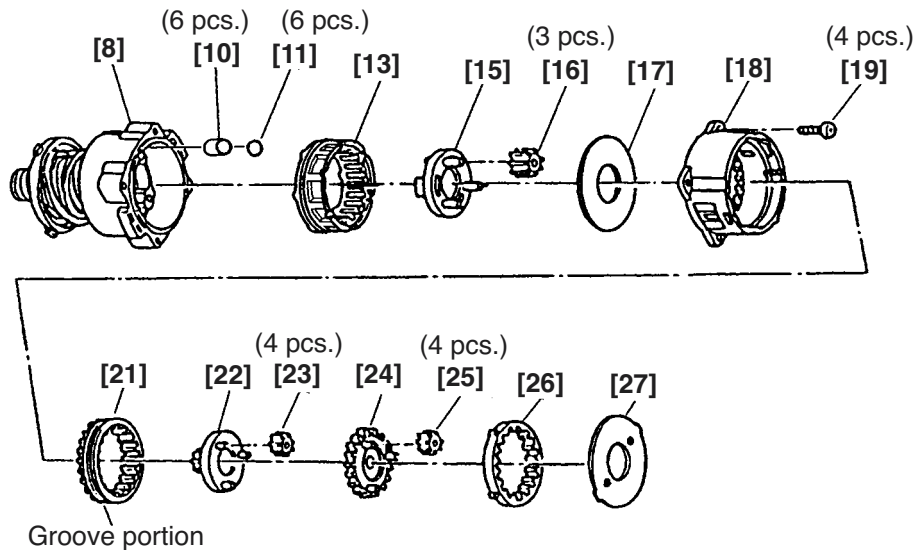

Fig. 6
(b) Mount the parts from the Roller [10] to Plate (A) [27] to the part assembled in the above (3) in order (see Fig. 6).
- ① Mount the Roller [10] first then mount the Steel Balls D5 [11].
- ② Pay attention to the mounting direction of the Ring Gear [13], Carrier [15], Slide Ring Gear [21], Pinion (C) [22] and Pinion (B) [24] (see Fig. 6).
- ① Mount the Shift Arm [20] to the protruded side of the Rear Case [18] facing its bent portion forward. At this time, insert the protrusion of the Shift Arm [20] into the hole of the Rear Case [18] and check that the protrusion is inserted into the groove of the Slide Ring Gear [21] that is mounted in the Rear Case [18] (see Fig. 6).
- ② Insert the Shift Knob [39] into the groove of the Shift Arm [20] facing "LOW" indication on the Shift Knob [39] backward.